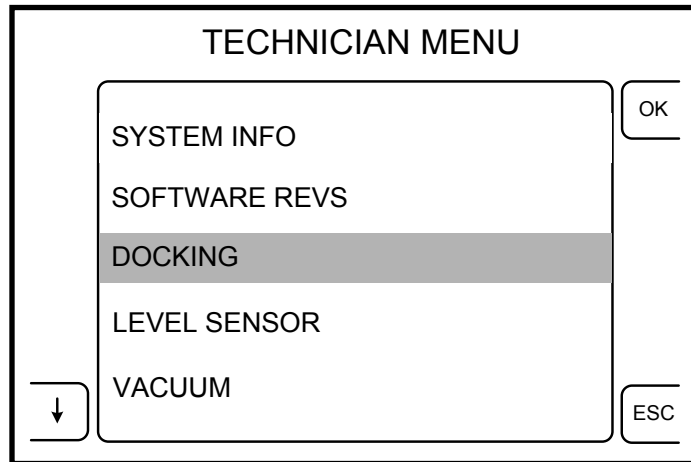

Figure 4: Select DOCKING Option
- d. Once the technician menu is displayed, push the button next to the arrow icon (on the left side) to highlight the DOCKING option. Then press the button next to the OK icon to select the docking menu. (see figure 4)